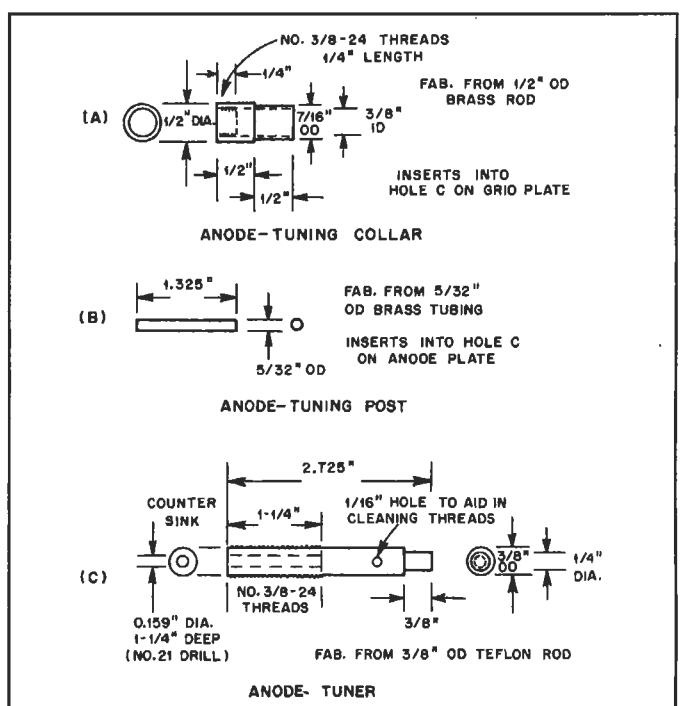

Fig 11—Anode-tuning capacitor details.
- C6 — Anode-tuning capacitor. See text and Fig. 11.